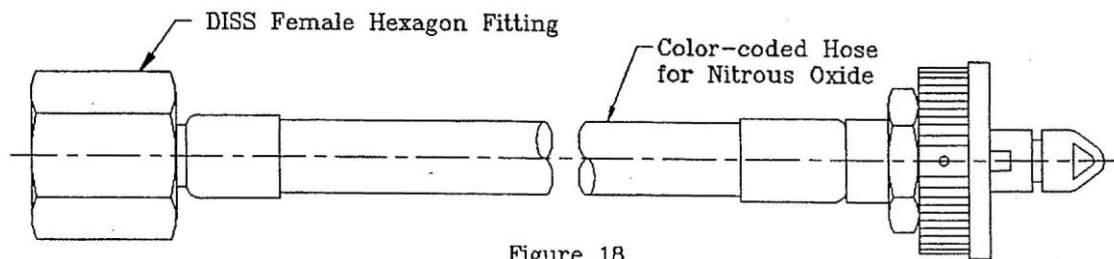
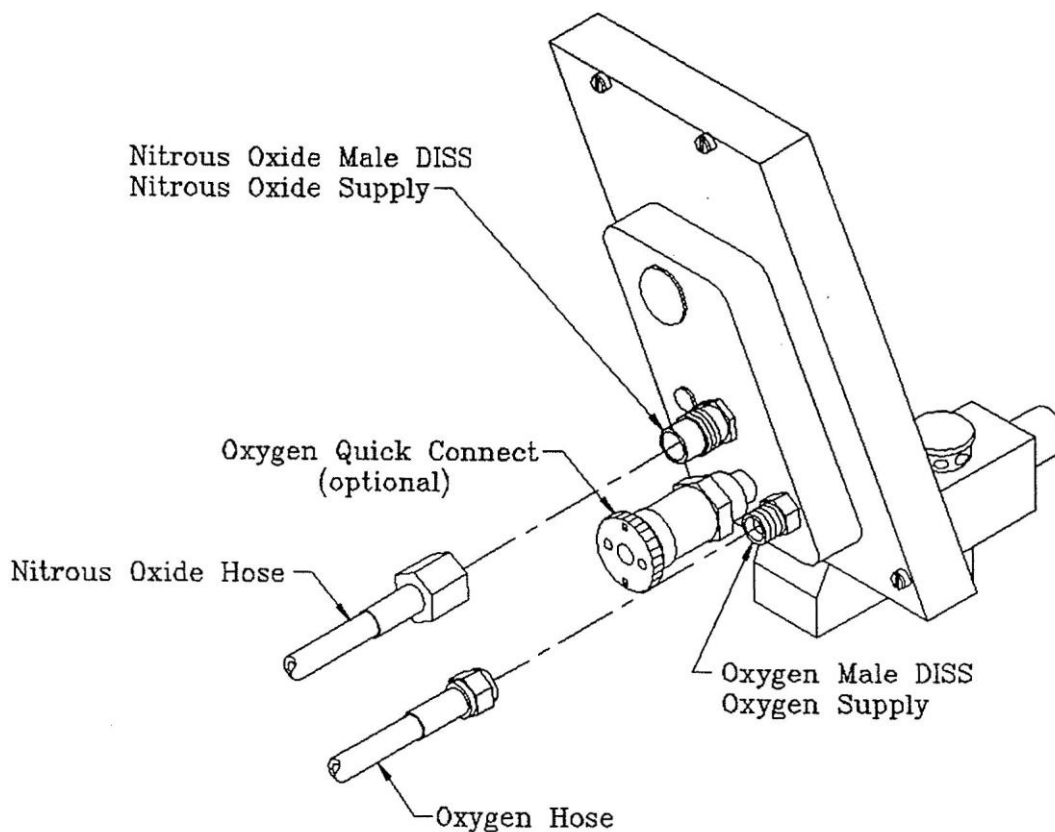

Figure 18
Figure 19
1. Connect DISS female hexagon fitting (see fig 18) of the nitrous oxide hose to male DISS fitting on the back of the analgesia head (see fig 19). The fitting is labeled N₂O. Accomplish this connection by screwing female hexagon fitting onto the male threaded fitting. Hand tighten and **then** finish tightening with a 7/8 open end wrench just enough to prevent leaks. **Do not over tighten.**
2. In the same fashion, connect the oxygen hose to the male oxygen fitting (see fig 19). Finish tightening the female hexagon fitting with an 11/16 open end wrench just enough to prevent leaks. **Do not over tighten.**
These hoses are designed to be used with portable units or DISS outlet stations. Connection to the cylinder mount will be made in the same manner as in Figures 19 & 22. Hoses are included with yoke blocks.